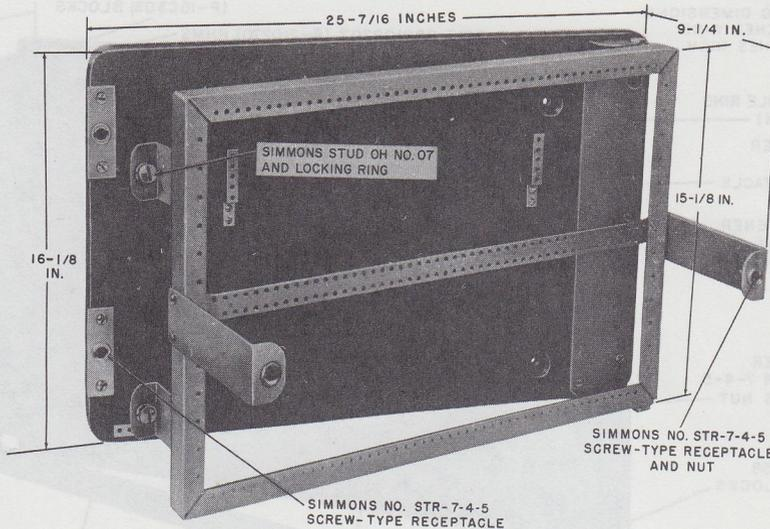

Fig. 4—16A (MD) Apparatus Mounting
3.02 The 16A (MD) apparatus mounting (Fig. 4) is a hinged metal framework plus backboard used primarily for panel-type 200-series KTUs. It has twice the capacity of the 31A or 31B apparatus mounting and can be wall-mounted or floor-supported (using ED-95023-70 metal stand). For attaching the hinged gate of the 16A apparatus mounting to a metal backboard, use the D-179863 kit assembly. This kit consists of a die-cast aluminum backboard as used with the 16C apparatus mounting, a U-channel detail, and two 66B1-25 connecting blocks.